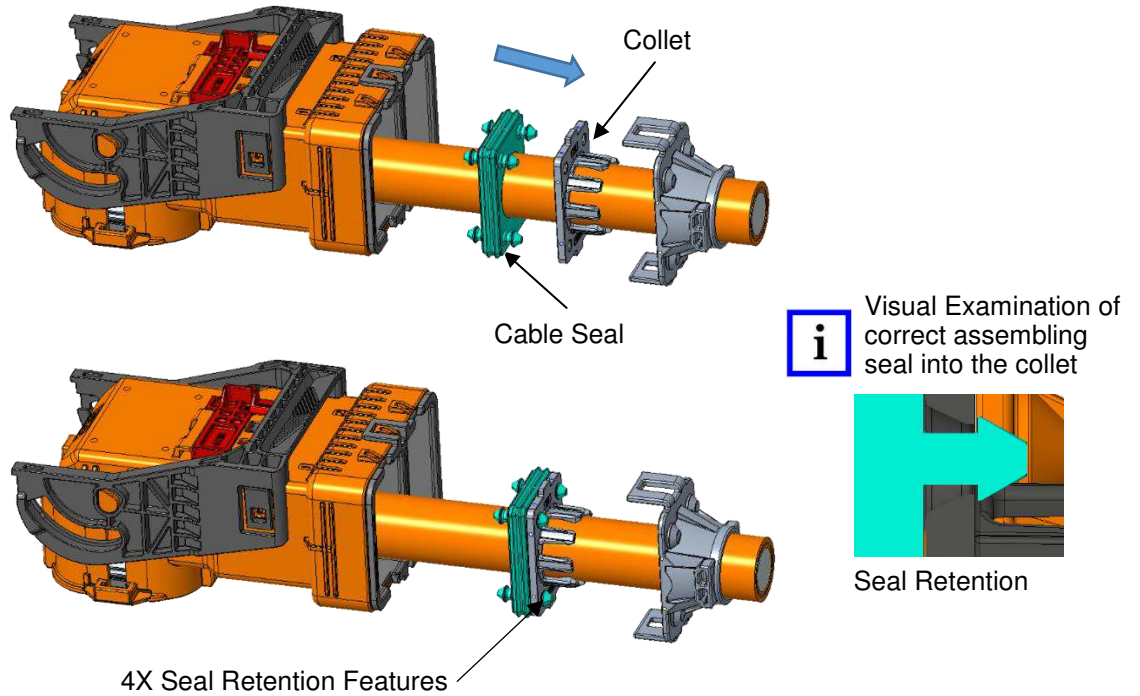

Figure 10: Seal and Collet sub-assembly
9. Slide the cable seal backward on the cable and into the collet end until 4X seal retainers properly seat as shown in Figure 10.